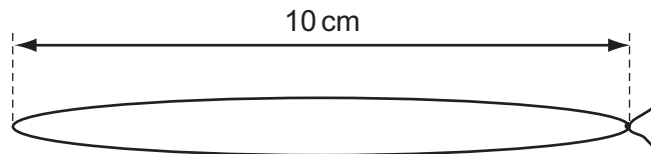

Fig. 2.2
- a loop of approximately 10 cm, as shown in Fig. 2.2, laid separately on the bench;